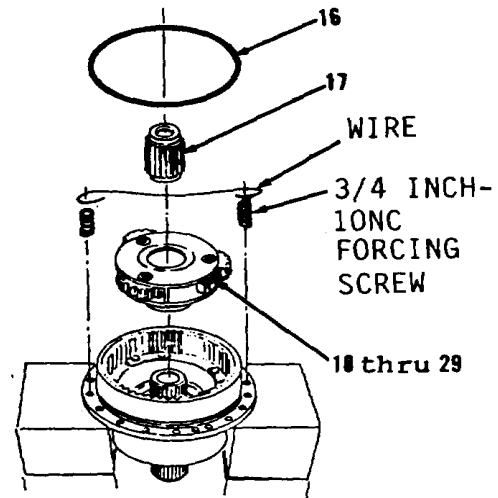

Figure 5-133.
10. Install wire from forcing screws behind housing (39) across planet carrier (29) to keep planet carrier (29) from falling.
11. Position items 16 thru 39 as an assembly on blocks with planet carrier (29) facing up. Remove wire and forcing screws from housing (39, Figure 5-133).
12. Remove preformed packing (16) and gear (17). Discard preformed packing (16).